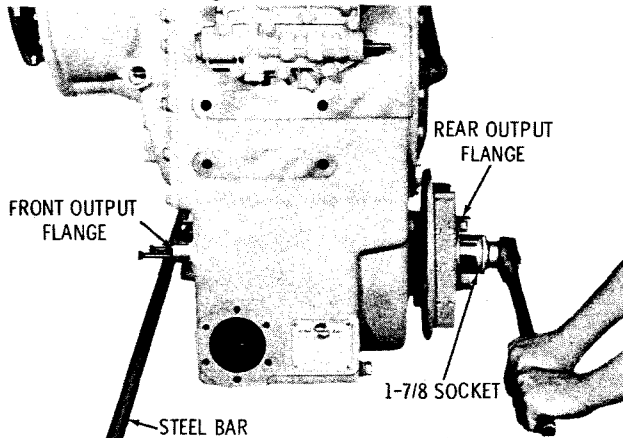

Fig. 5-4. Removing rear output flange nut
(2) Using a 1-7/8-inch socket, remove the rear output flange retaining nut and washer (fig. 5-4). To prevent rotation of the flange, install two bolts into the front output flange and place one end of bar stock between the bolts and allow the other end to press against the assembly table. Remove the front output flange retaining nut and washer, using the